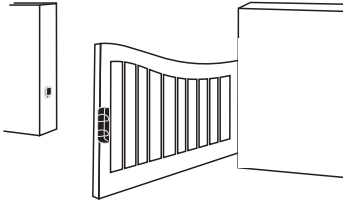

Fig.5 Mounting the sensor on the one-leaf gate.
2. Mount the AZ-MG magnet on the post, AZ-TX transmitter on the gate wing (or vice versa), in such a way that the magnet and the transmitter are opposite each other when the gate is closed (Fig.5).